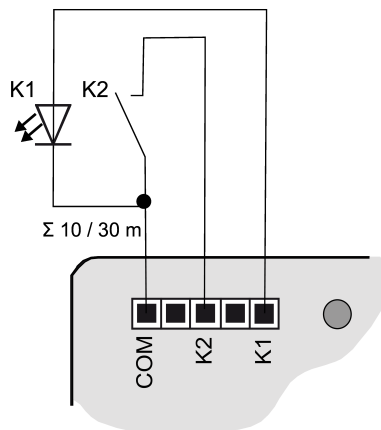
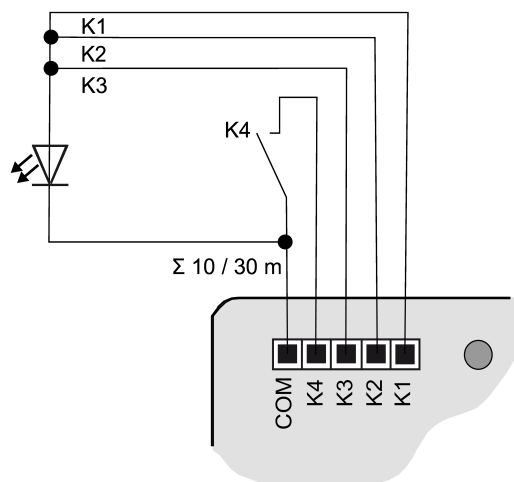

Figure 3: Connection example: push-button interface 2-gang
Figure 6: Connection example with outputs switched in parallel
- Connect push-buttons, switches, contacts, LED or NTC to enclosed connecting cables (4) according to the connection examples; (see figure 3) to (see figure 6). The connection examples show the use with inputs and outputs.
**i** To increase the output current, outputs can also be switched parallel to each other with the same parameterization; in the example here, (see figure 6) **K1-K3** are switched in parallel.